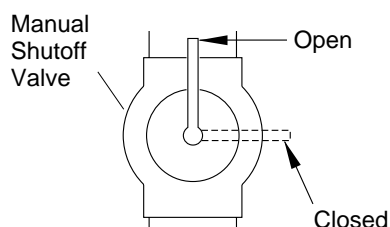

Figure 17 - Manual Shutoff Valve
1. Close manual shutoff valve (see Figure 17).
1. Open manual shutoff valve (see Figure 17).